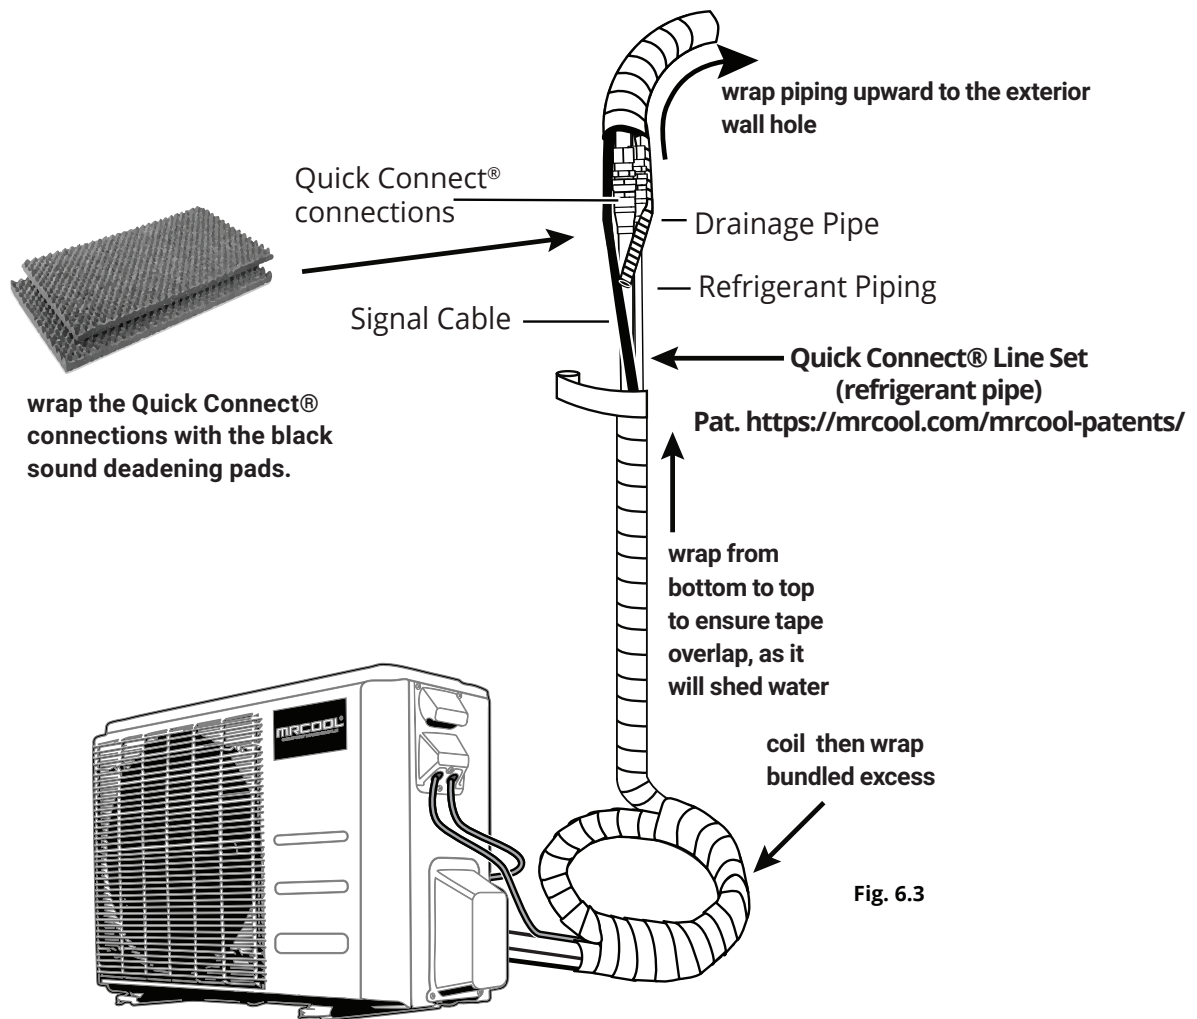

Fig. 6.3
3. Now, starting at the outdoor condenser and working your way up to the wall hole, you will wrap the exposed line set, cables, and drain hose together tightly using the supplied Non-adhesive U.V. tape. The drain pipe will need to be at the bottom of the bundle (**Refer to Fig. 6.3 and the image below**). **DO NOT wrap the end of the drain hose**